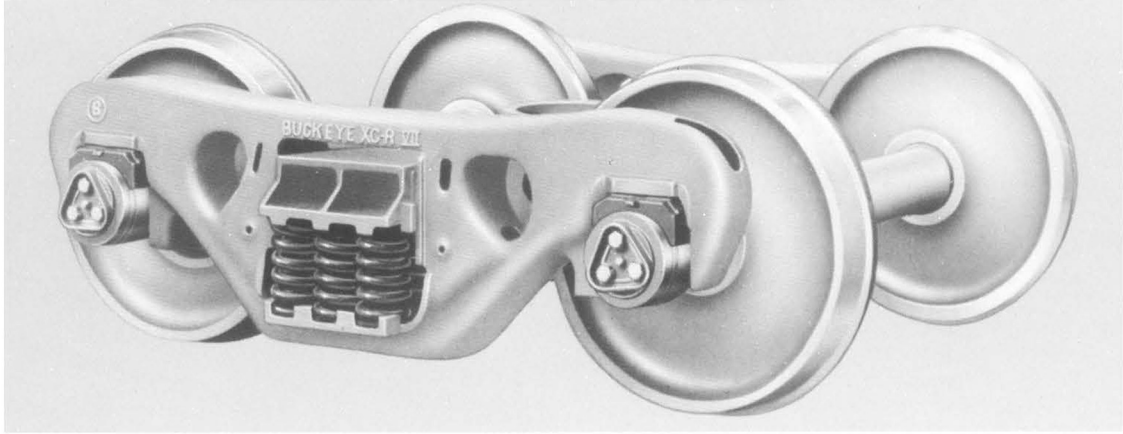

**FIGURE 1.100**
**1.53** Find the equivalent mass of the system shown in Fig. 1.100.